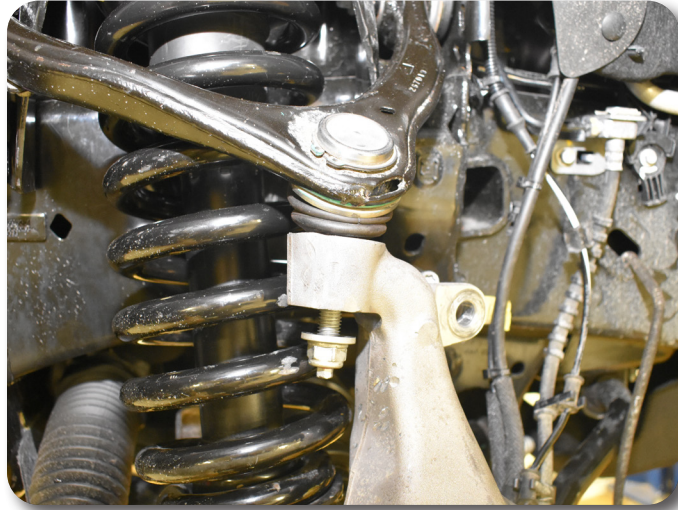

Figure 5
9. Unseat the upper ball joints from the knuckle, refrain from hitting the aluminum steering knuckle, use appropriate tool to separate ball joints, avoid damaging the threads. **Figure 5** Allow the knuckle to rest back away from the front strut.